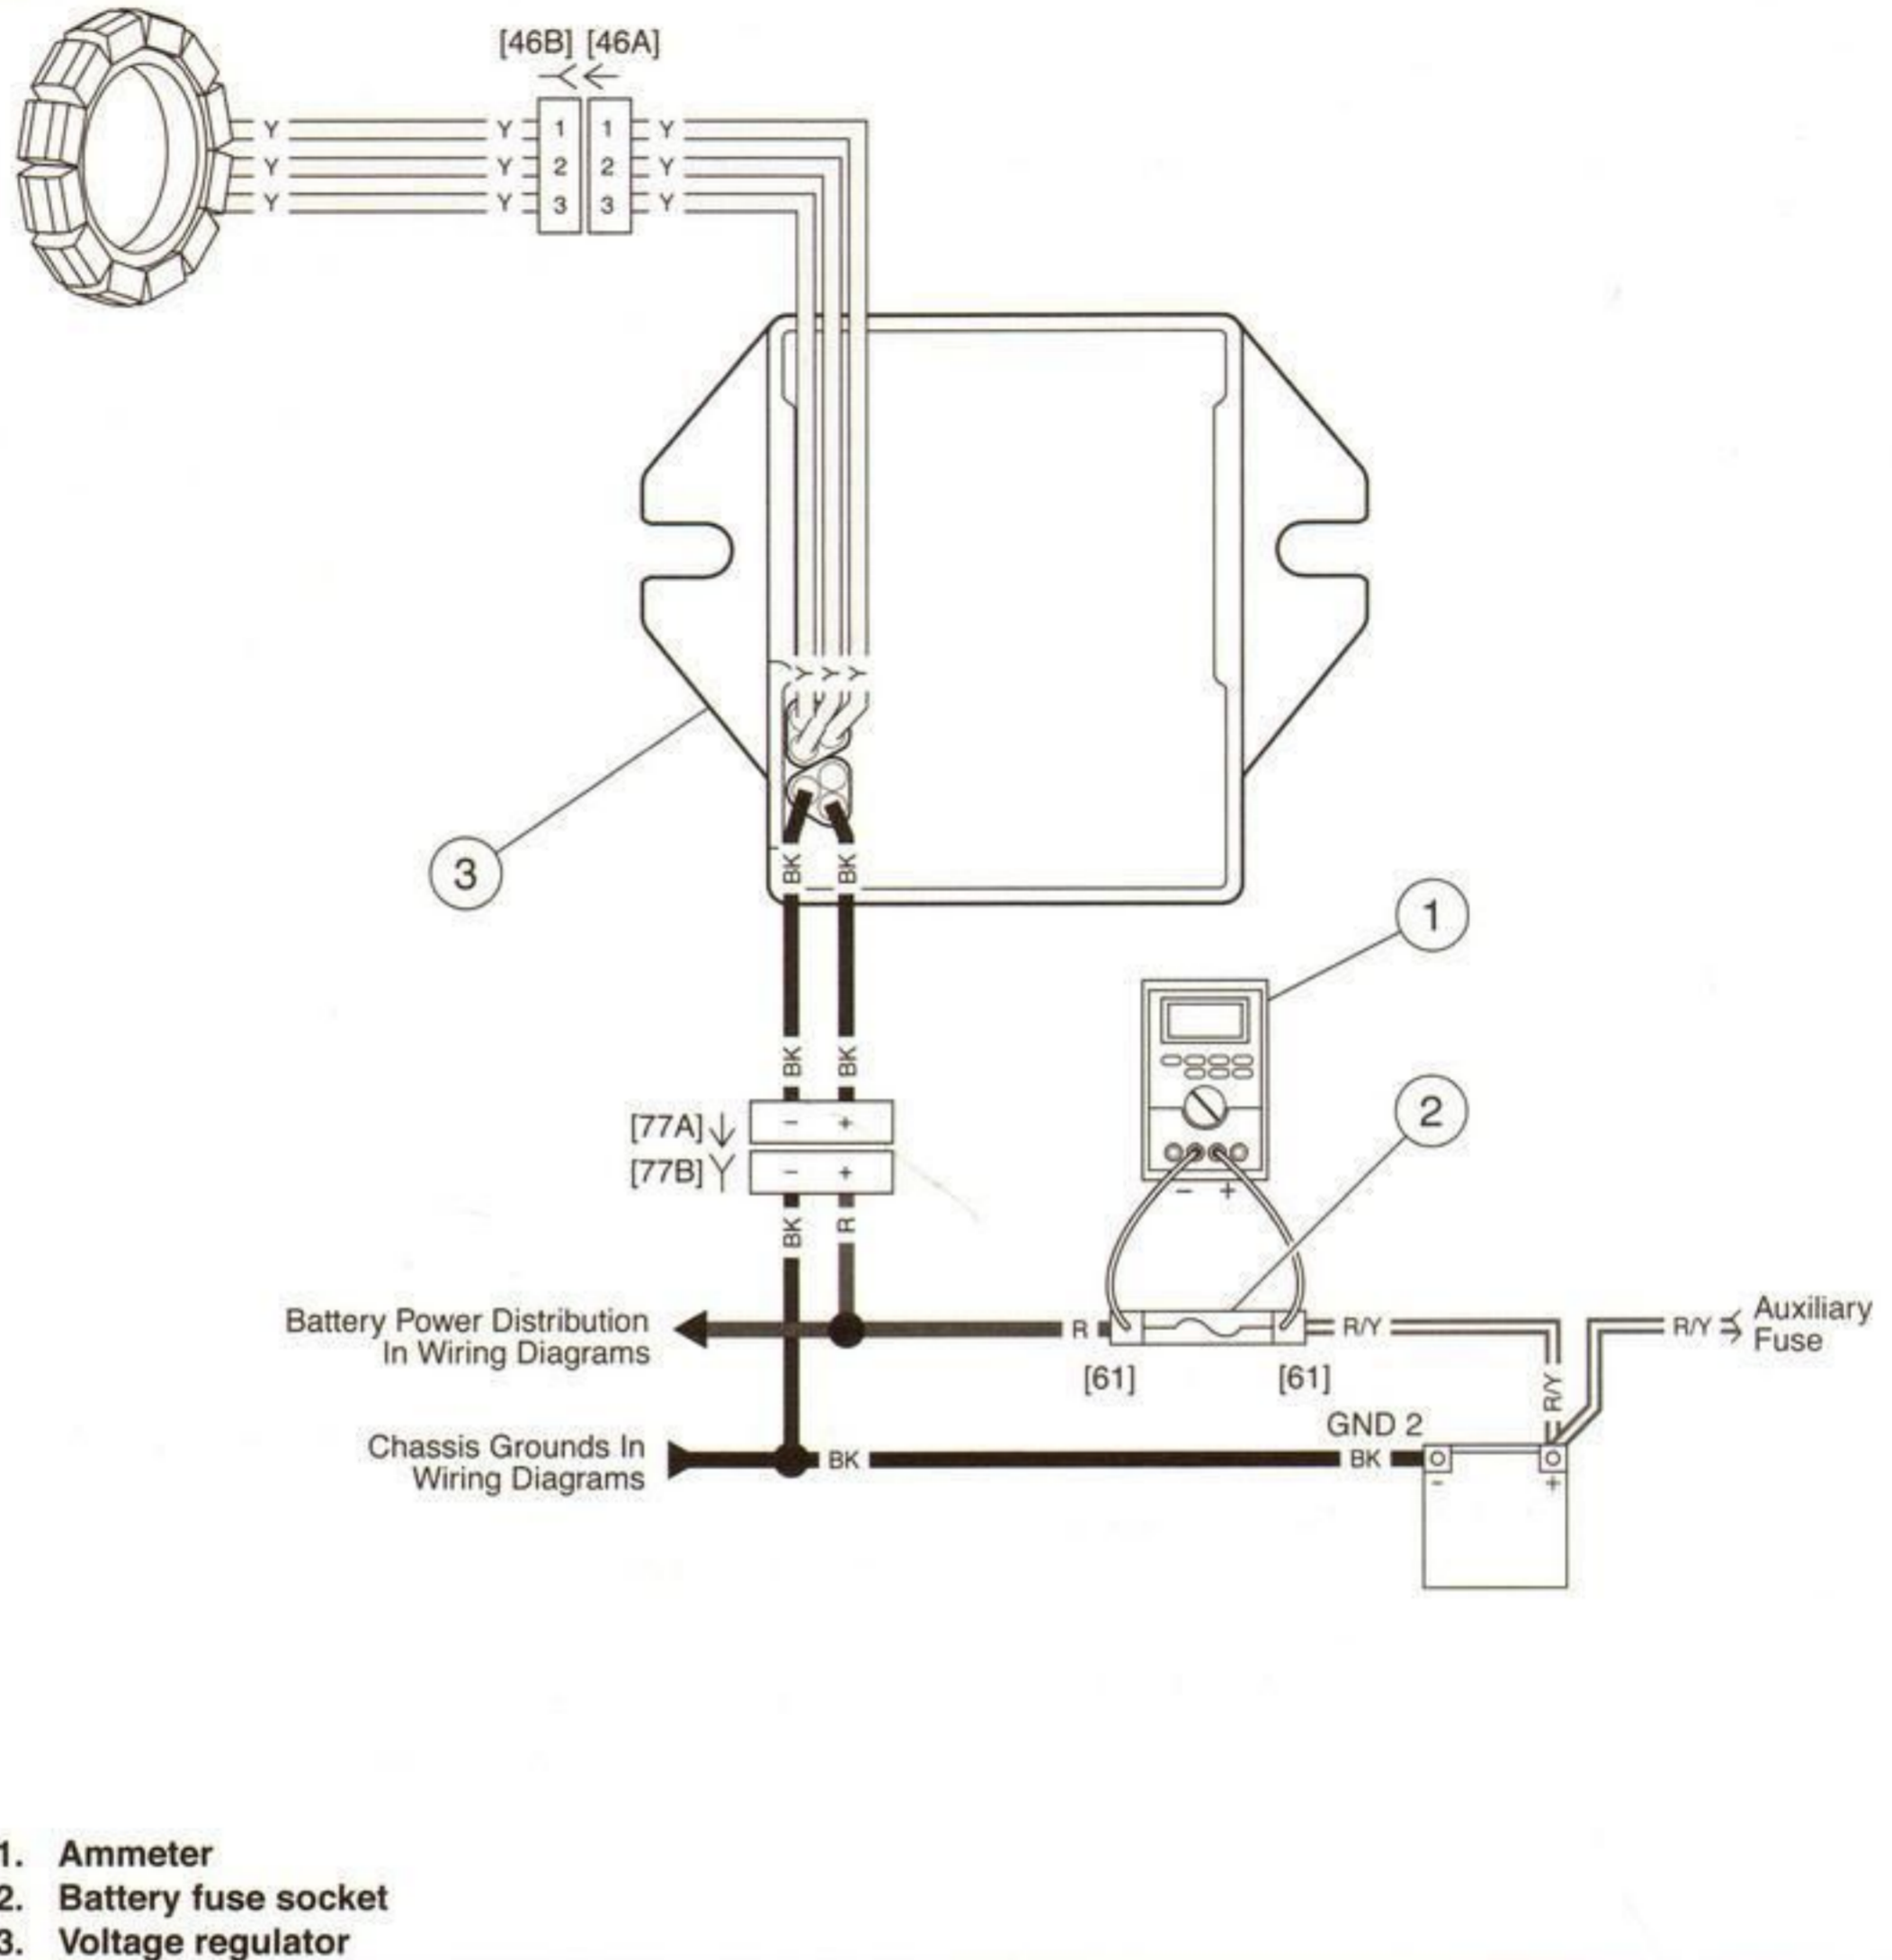

Figure 3-13. Milliamperage Draw Test (Ignition Turned to OFF)
2. See Figure 3-13. Using HARNESSTEST KIT (Part No. HD-41404-B) purple male socket probes and patch cords, connect ammeter to battery fuse socket terminals. With this arrangement, any regulator drain is picked up.